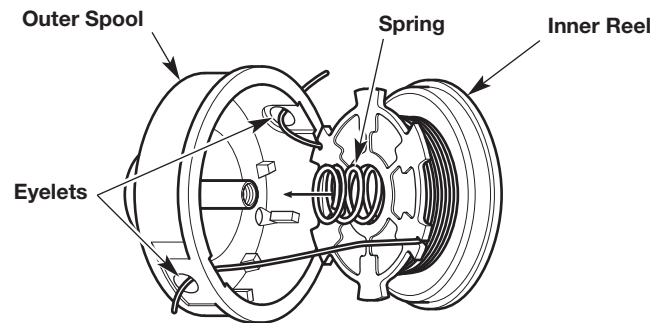

Fig. 32
1. Pass the two line ends through the eyelets in the outer spool (Fig. 32).
2. Place the spring inside the inner reel (Fig. 32).
3. Insert the inner reel into the outer spool (Fig. 32). Push the inner reel and outer spool together.